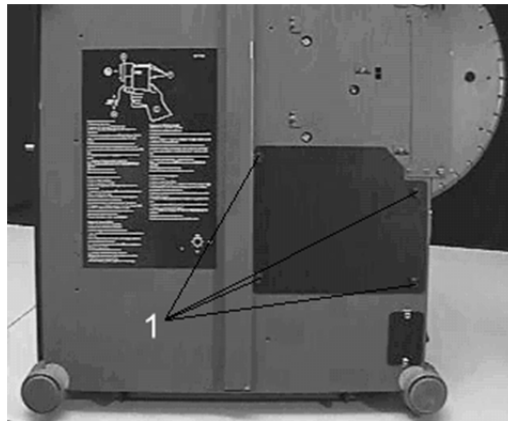

Figure 3. Base of the Eclipse showing the lamp module cover thumb screws (1)
- 4 On the base of the instrument, undo and remove the four thumb screws of the lamp module cover (see Figure 3).